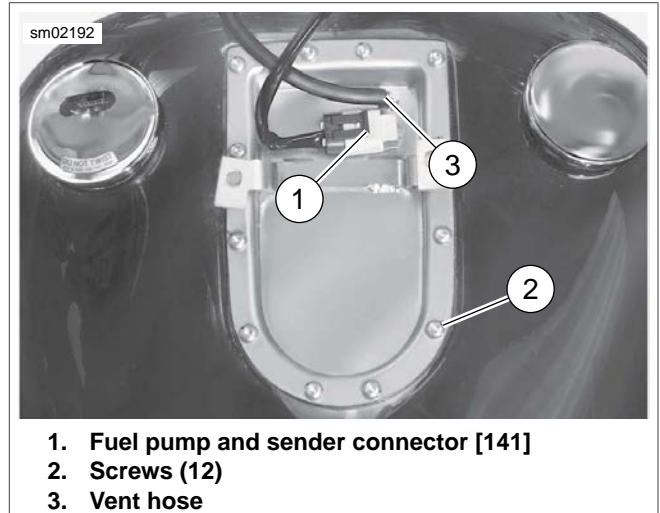

Figure 7-49. Top Plate Screws (Typical)
5. See Figure 7-49. Unplug fuel pump and sender connector (1) [141].
6. Remove vent hose (3).
7. Remove top plate screws (2) and discard.